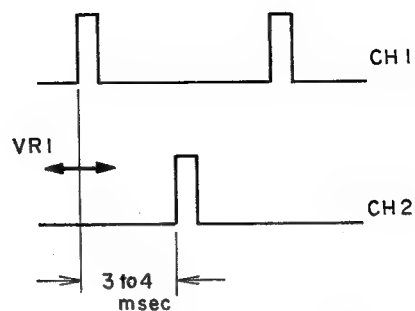

Fig. 26
- Adjust VR1 (20 k $\Omega$ ) until as in Fig. 26.